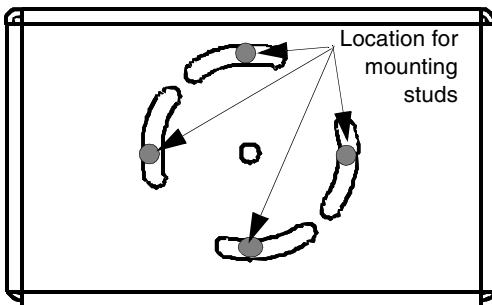

Figure 2 Mounting template
2. Use template included with the fixture to locate position of four mounting studs. Locate studs (or anchors) as shown in Figure 2 to allow the full pan range.